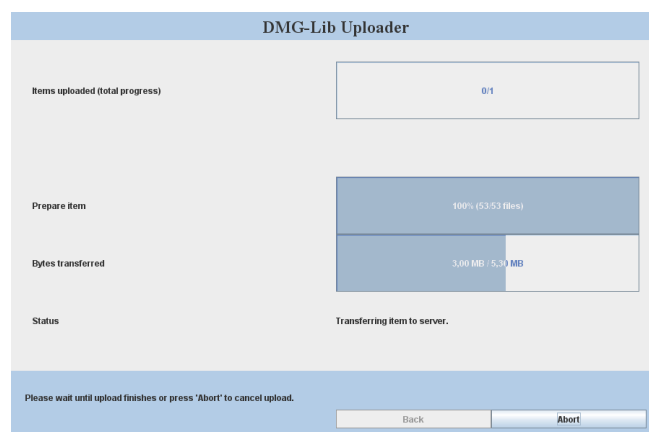

Figure 40 - Main window of the Uploader with a progress indicator
- The Upload window will display an indicator that reflects the progress of the upload (Figure 40). As soon as the transfer completes, you can press the **Close** button of the Uploader.